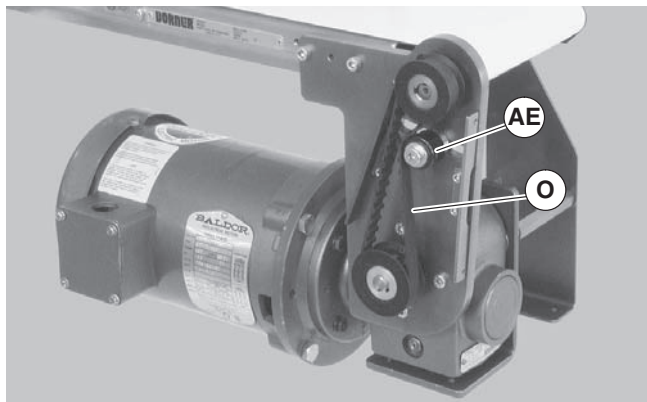

Figure 21
2. Loosen tensioner (Figure 21, item AE).